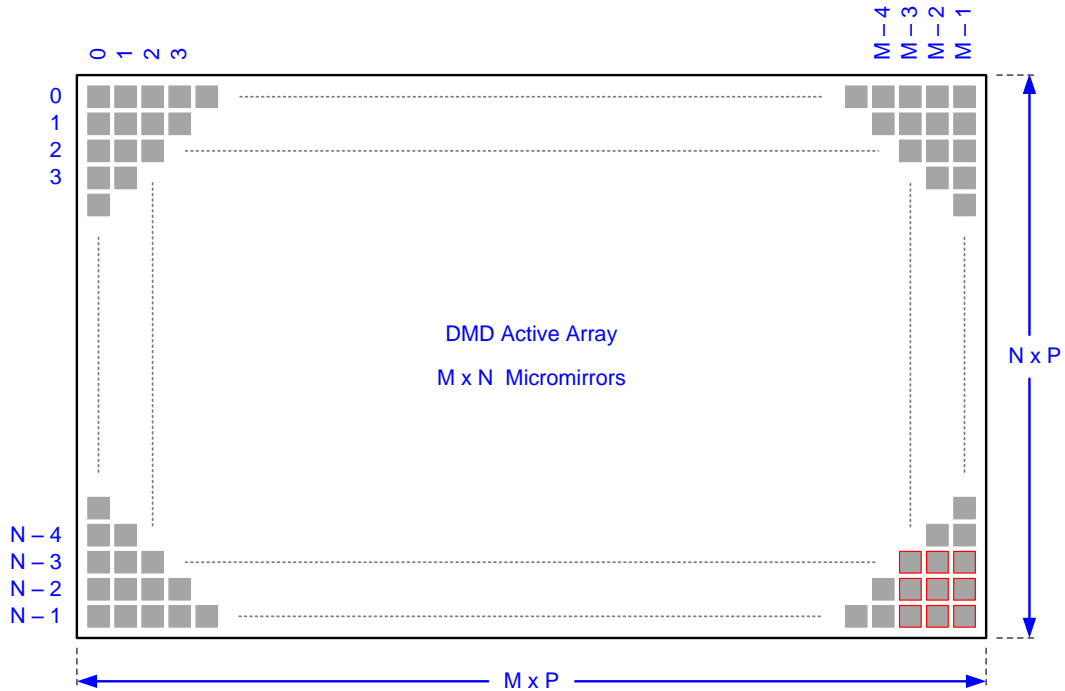

**Figure 10. System Interface Loads**
(1) Uniformly distributed within area shown in Figure 10.